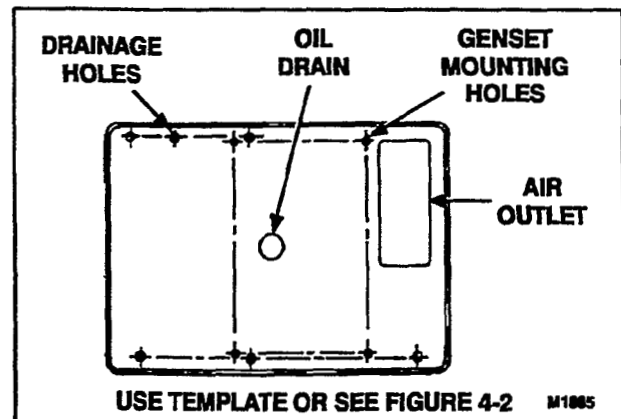

FIGURE 3-4. COMPARTMENT FLOOR TEMPLATE
2. Put holes in the bottom of the compartment for genset mounting, air outlet and oil drain (Figure 3-4). If the bottom of the compartment is wooden, remove the wooden section under compartment and replace it with a sheet metal floor and an adequate steel support frame. (Refer to Onan template number 539-1383).